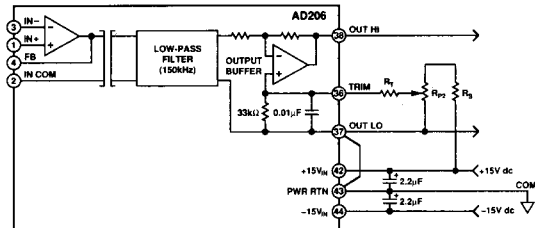

Figure 17. Output Offset Adjustment Circuit
**Output Offset Adjustments.** Figure 17 illustrates one method of adjusting the output offset voltage. Since the AD206 exhibits a nominal output offset of  $-35$  mV, the circuit shown in Figure 17 was chosen to yield an offset correction of  $0$  to  $+73$  mV for a total output offset range of approximately  $-35$  mV to  $+38$  mV.